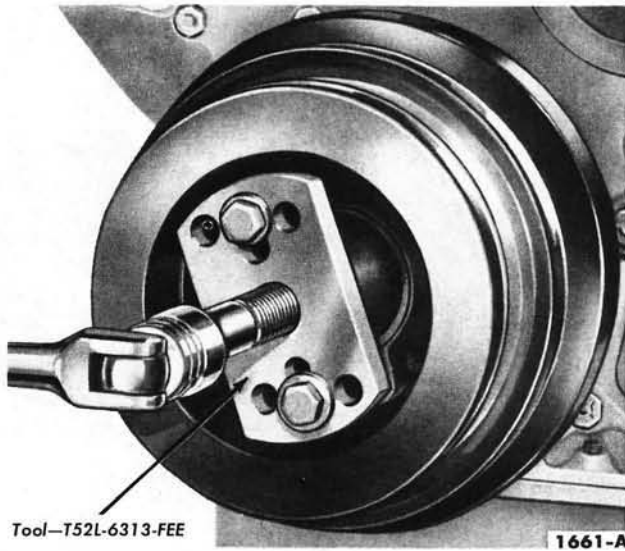

FIG. 29—Damper Removal
2. Remove the damper cap screw, and washer. Install the removal tool and remove the damper (Fig. 29).